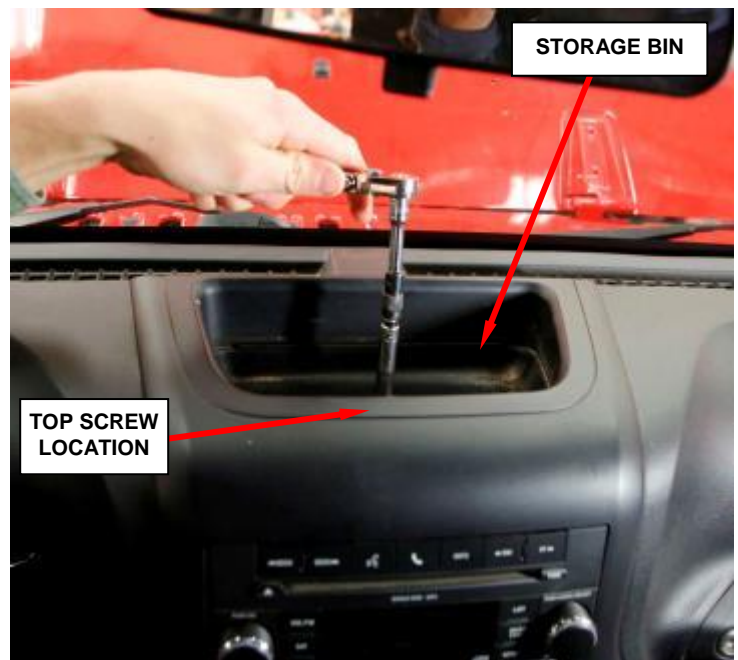

Figure 82 – Center Bezel Screws
- 18. Remove the storage bin mat and remove the top screw (Figure 82).